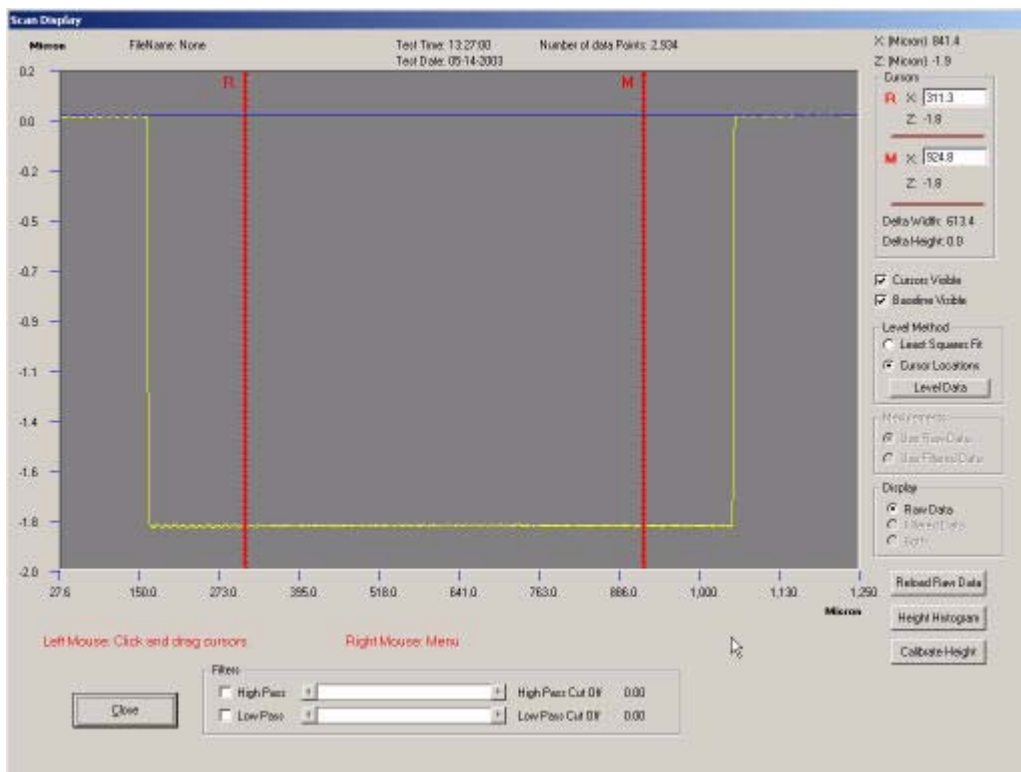

Figure 4.7: Scan Display window
Note: a step is ideal. The width of the step should be small enough that the scan length of 0.5 millimeters in the *Scan Setup* window allows the surface on either side of the step to be sampled. See Figure 4.7.
- When the scan is completed, the stylus lifts, the stage returns to its starting position above the start-of-scan location, and the *Data Display* window is opened with the profile plotted in dimensioned coordinates (see Figure 4.7).
The *Data Width* - the horizontal distance between the *R* and *M* cursors (See Figure 4.7) along the X axis.
The Delta Height - the vertical distance between the *R* and *M* cursors (See Figure 4.7) where they intersect the profile along the Z axis.